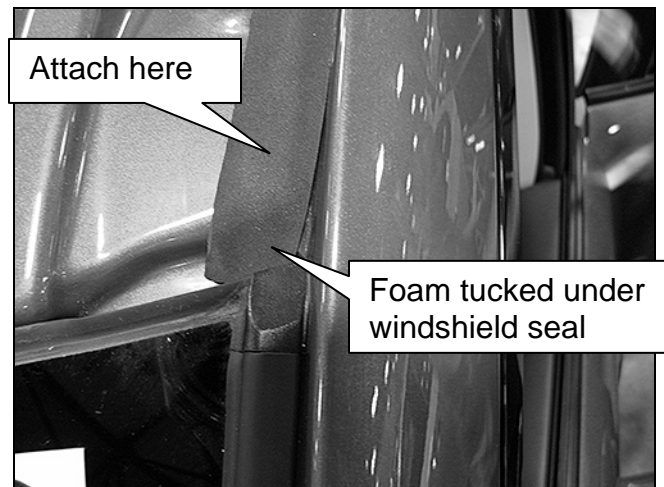

Figure 11
- b. Attach several inches of the first foam strip at the corner of the windshield (Figure 11).